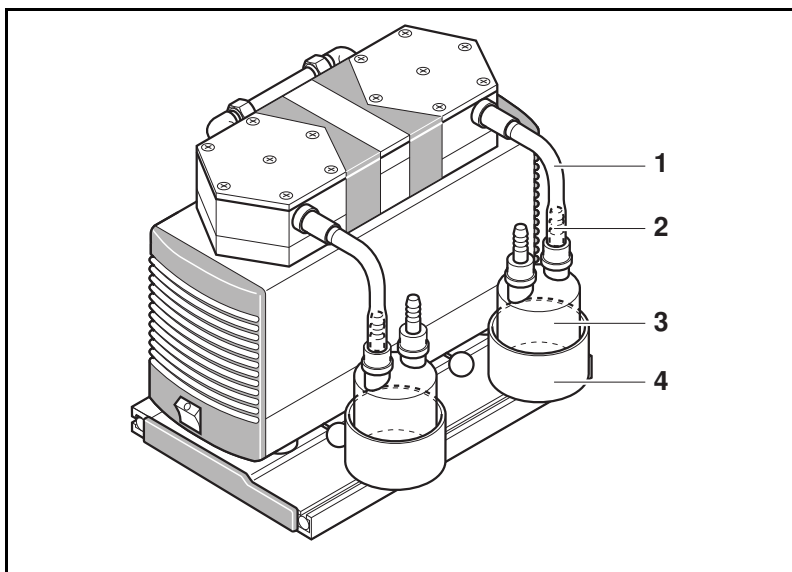

Fig. 6: Separator (shown: LABOPORT system SR with pump N 840.3 FT.18 as example)
1. Slide the container for the separator (see fig. 6/4) into the baseplate's upward-pointing slotted bar.